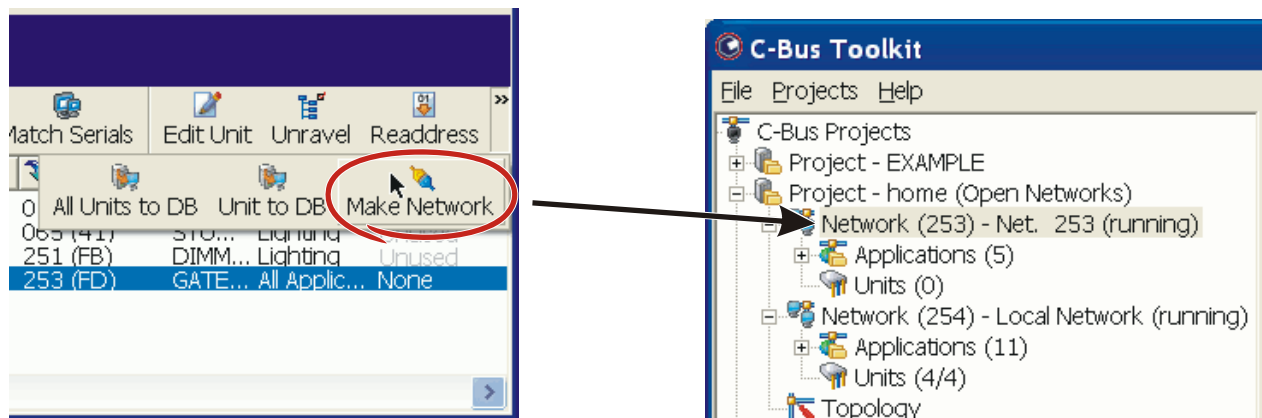

Figure 2 - Select the gateway and click "Make Network, to create a new network for the other side of the gateway
- 7) Select the gateway in the "Units on Network" window, and click "Make Network" on the tool bar. A new network will be created for the other side of the gateway. This is illustrated in Figure 2.